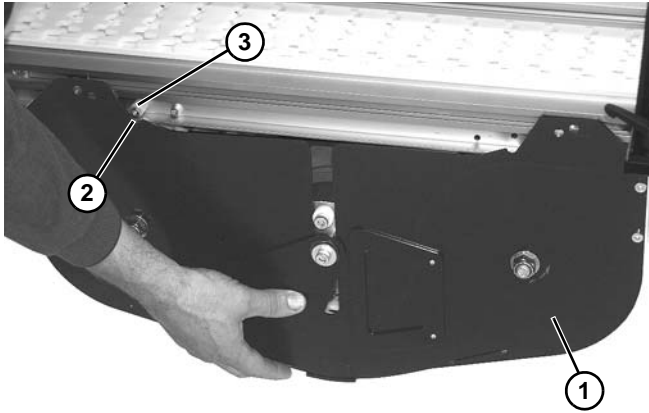

Figure 62
4. Raise weighted take up assembly (**Figure 62, item 1**) with notch (**Figure 62, item 2**) in assembly mating with stud (**Figure 62, item 3**) on conveyor frame.